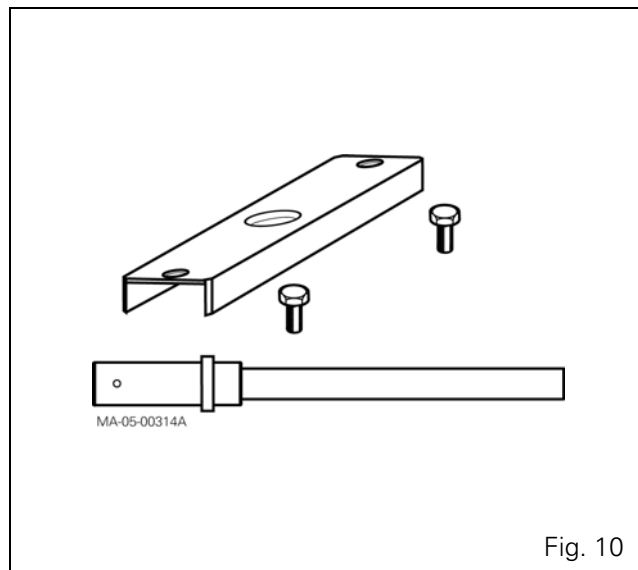

Fig. 10
- **3378225M11**: Sling for Power Shuttle housing (Fig. 10)